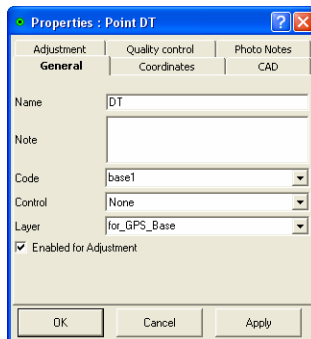

Figure 5-81. General Properties
- View or edit *General* tab fields (Figure 5-81):